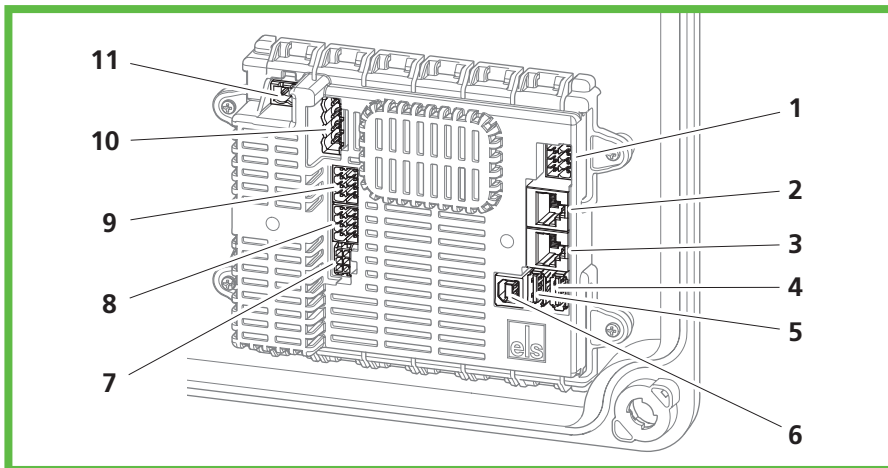

Abb. 6: Charge controller connections
- ▶ Connect the LAN cable to the LAN connection socket LAN-1 in the cover (Abb. 6 No 3).